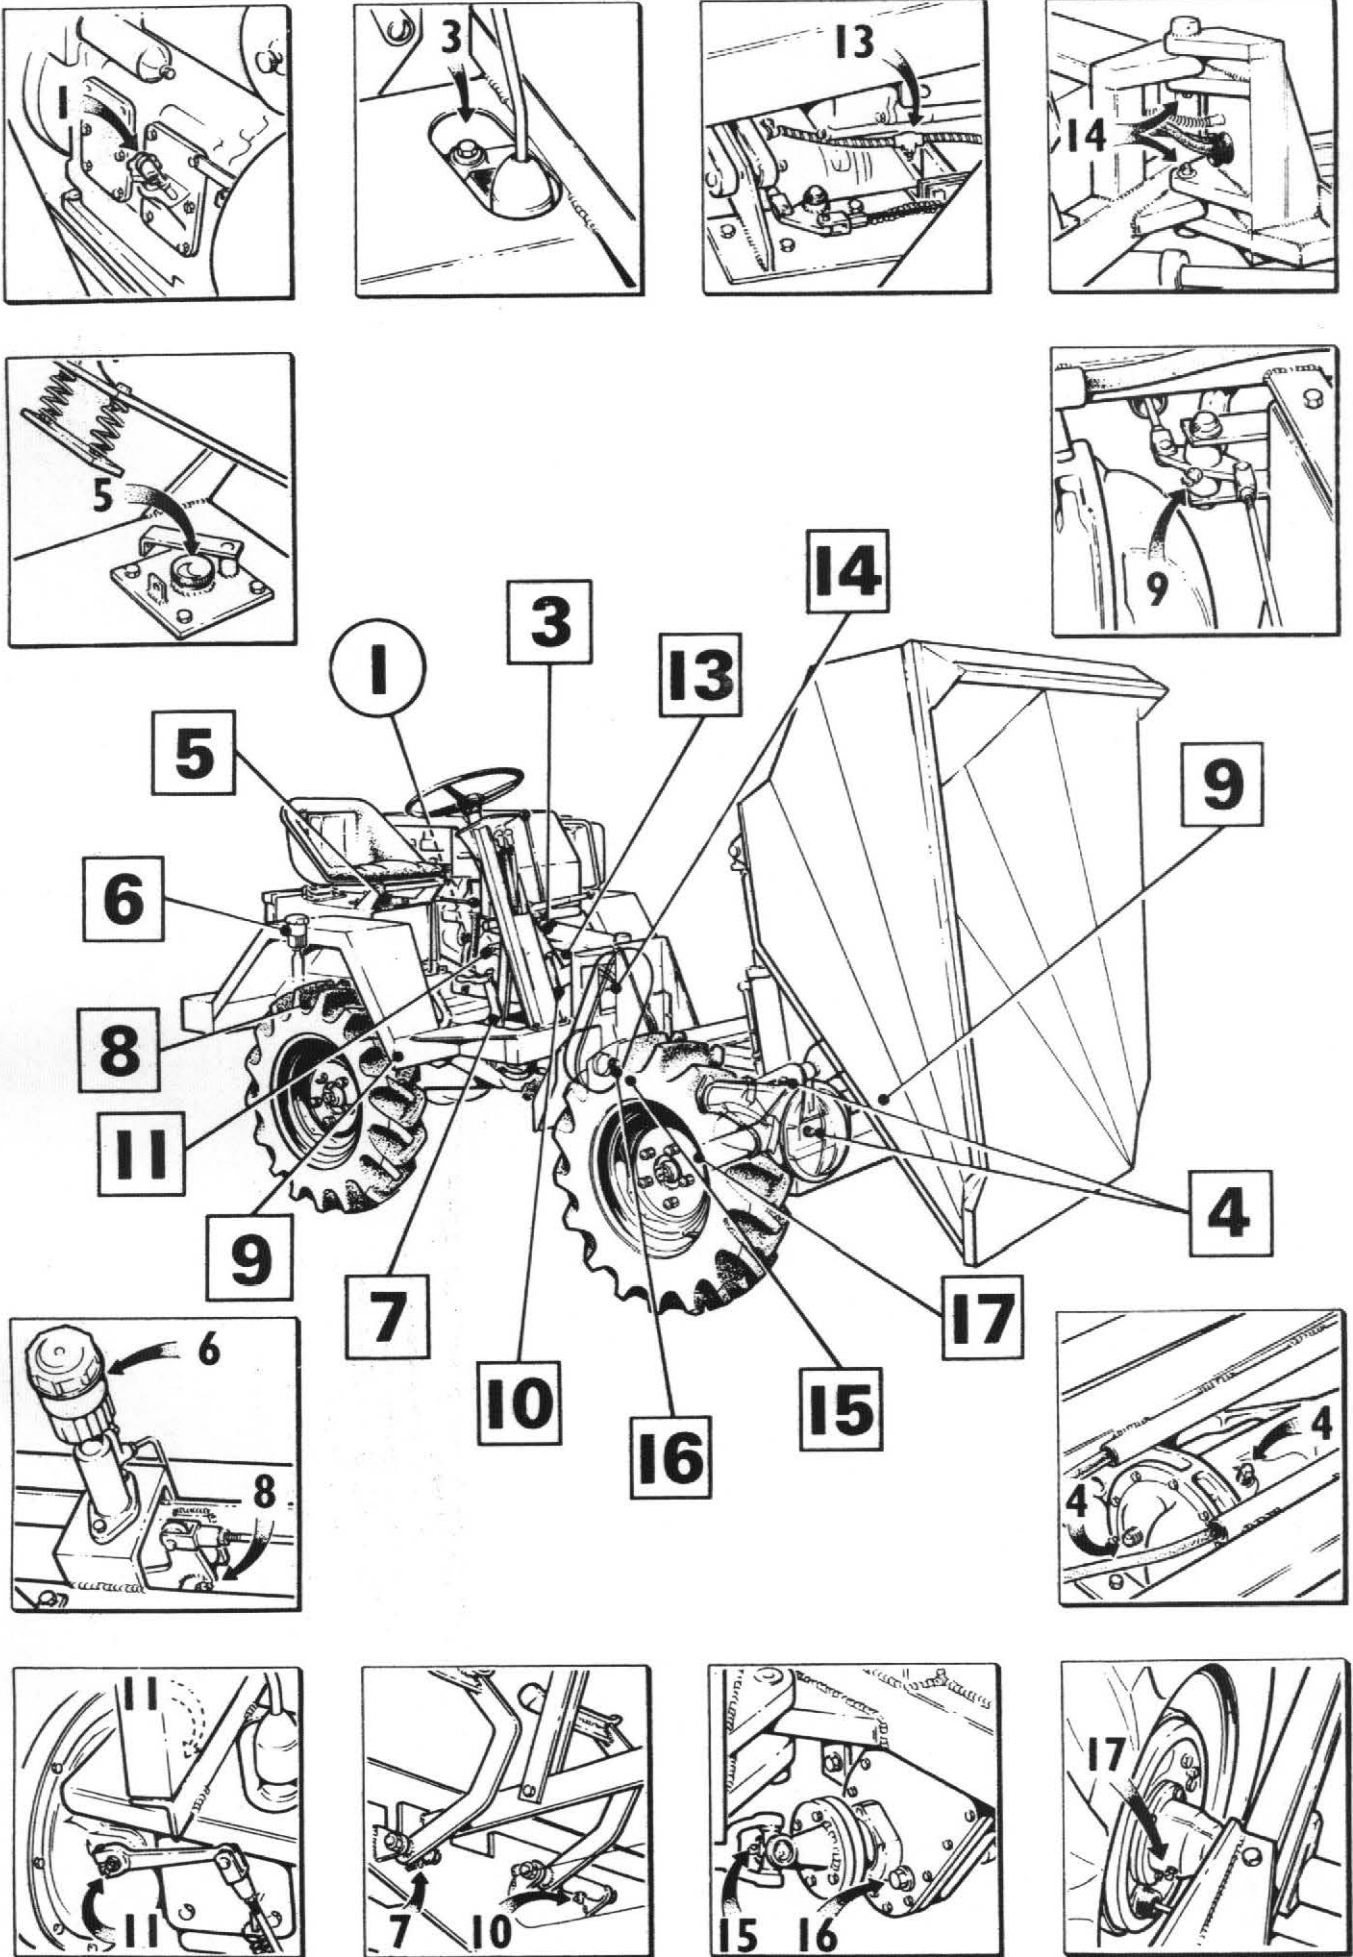

FIG. 6
N.B. For further Lubrication information see Fig.6 and corresponding text
### Lubrication (See Fig. 6)